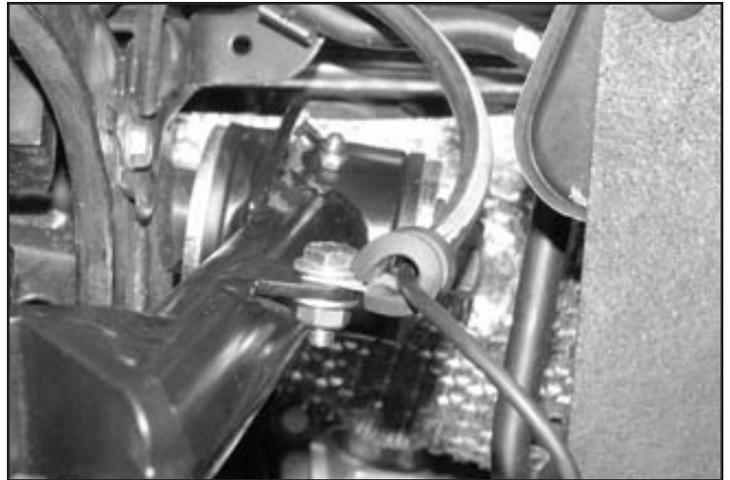

FIGURE 43
34. Locate the FTclamp,  $\frac{1}{4}$  -20 x  $\frac{1}{2}$  bolt, nut and washer. Attach the wheel speed sensor to the tab on the upper control arm with the clamp and hardware. Torque to 10 ft-lbs. **SEE FIGURES 43**